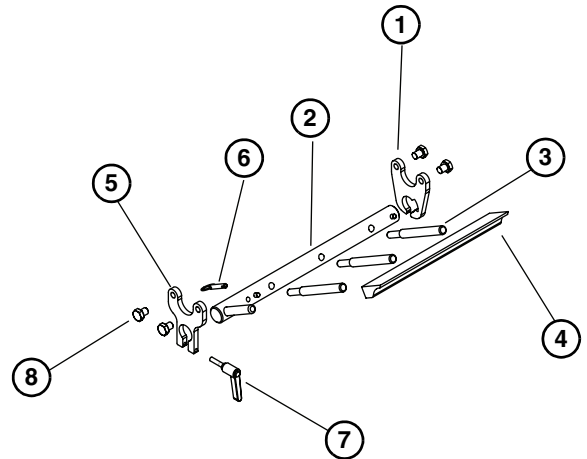

Figure 22
Typical Scraper Components (**Figure 22**)
- Attach the scraper adjust plate (**Figure 22, item 1**) and the scraper mount plate (**Figure 22, item 5**) to the frame using four M10-1.5 x 12mm hex head cap screws.